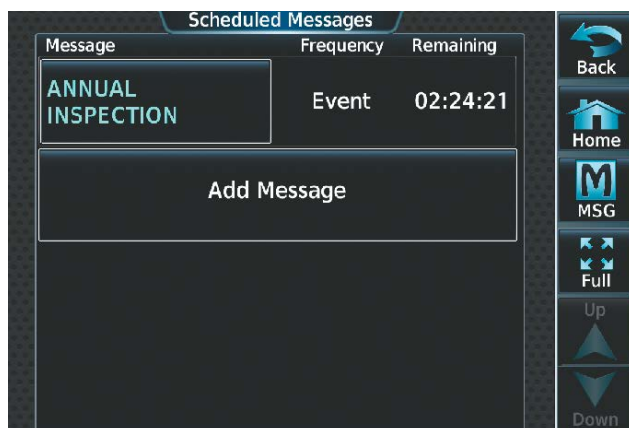

Figure 8-108 Select Message for Editing
- 2) Touch the name of the message to be edited. The Message Options Window is displayed as in Figure 8-108.